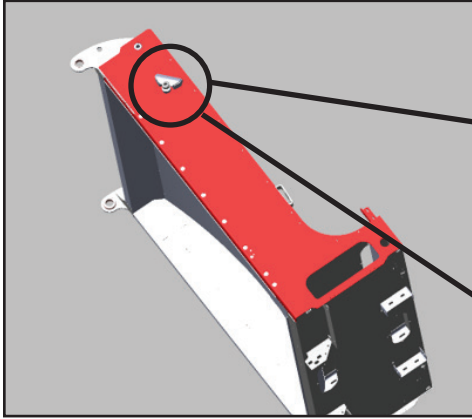
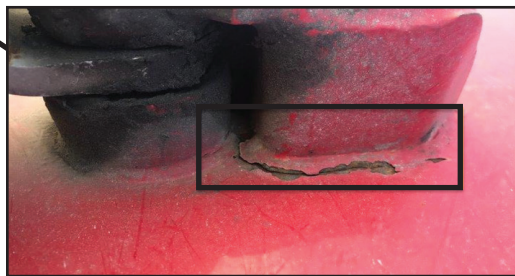

Figure 1
Figure 2
2. Inspect the lug outer weld for fatiguing and weld cracking (Figure 1 and Figure 2).